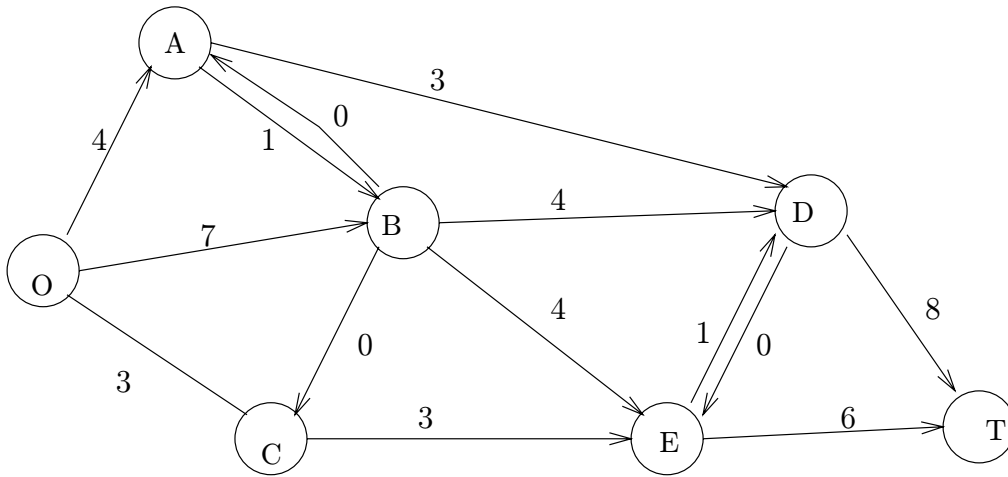

Figure 4: Optimal flow
Again, by inspection, we discover the following augmenting path: O-C-E-B-D-T. It contains four forward arcs and one backward arc (BE). The residual capacities on the forward arcs are 2, 2, 1 and 2 respectively. The flow on the backward arc is 5. The smallest of these values is 1. Therefore we can increase our total flow by 1 (to a total of fourteen trams). This is achieved by increasing the flow on each of the forward arcs by one unit and decreasing it by one unit on the backward arc. The resulting arc flows are shown in figure 4.